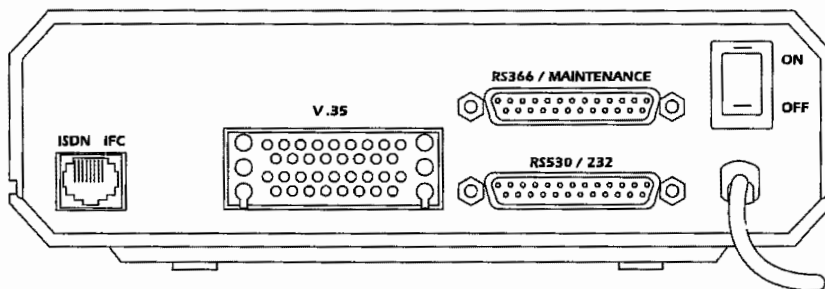

Figure 1-1
The ISU 128 has one RJ-45 jack available on the rear panel for network connection (See Figure 1-1). The RJ-45 jack labelled **ISDN IFC** is for ISDN Basic Rate. ISDN Basic Rate service divides a standard telephone line into three digital channels capable of simultaneous voice and data transmission. The three channels are comprised of two bearer (B) channels at 64 kbps and one data (D) channel at 16 kbps (2B+D).